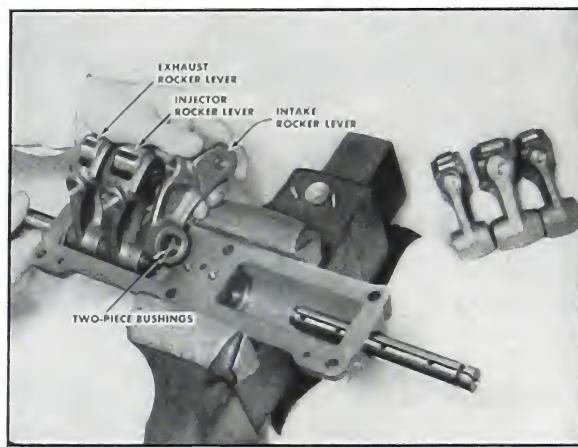

Fig. 4-14. Assembling cam follower housing
4. Assemble levers and shafts in position, with the injector lever in the center of each assembly. (Fig. 4-14.)